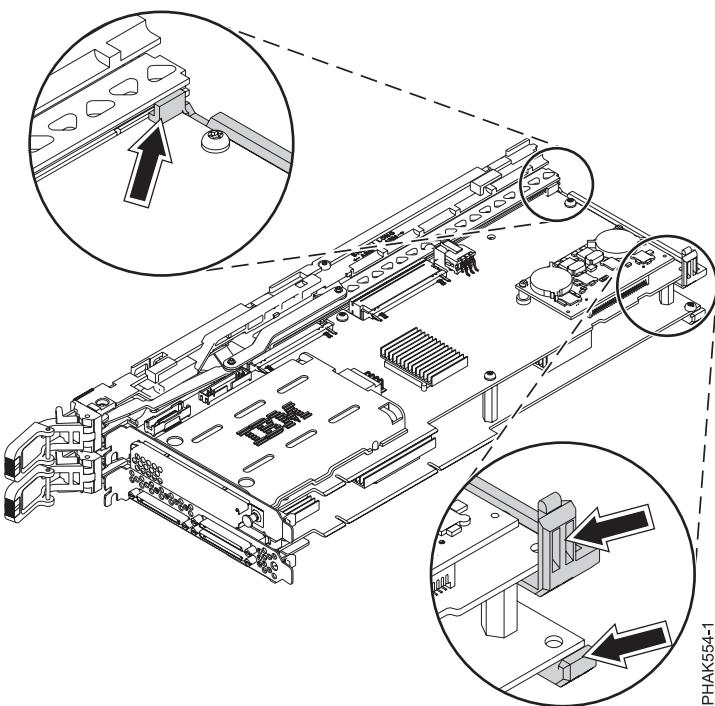

Figure 53. Placing the double-wide adapter in the cassette assembly
- b. Attach the notches of the rear arms of the cassette assembly at the rear end of the double-wide adapter. See Figure 53 on page 68. When you attach the upper, right part of the cassette assembly to the adapter, you might need to adjust the slider to set it in place.